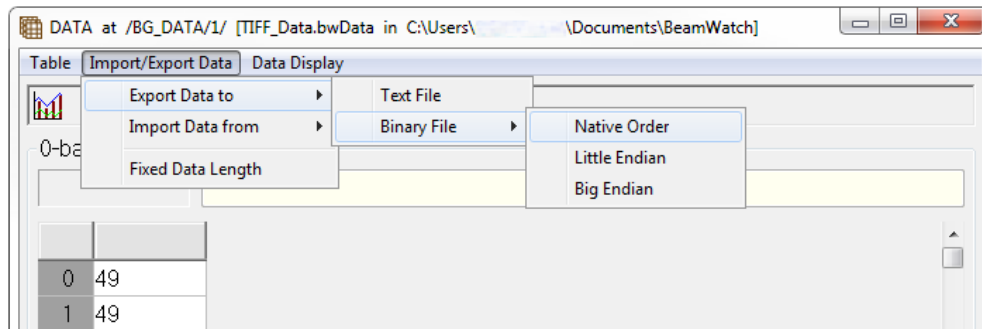

Figure 25: Native Order Location
9. Select **Import/Export Data > Export Data to > Binary File > Native Order** (Figure 25).